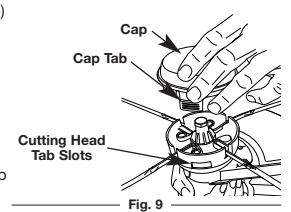

Fig. 9
8. Replace the cutting head cap, making sure to align the cap tabs with the cutting head tab slots. (Fig. 9)